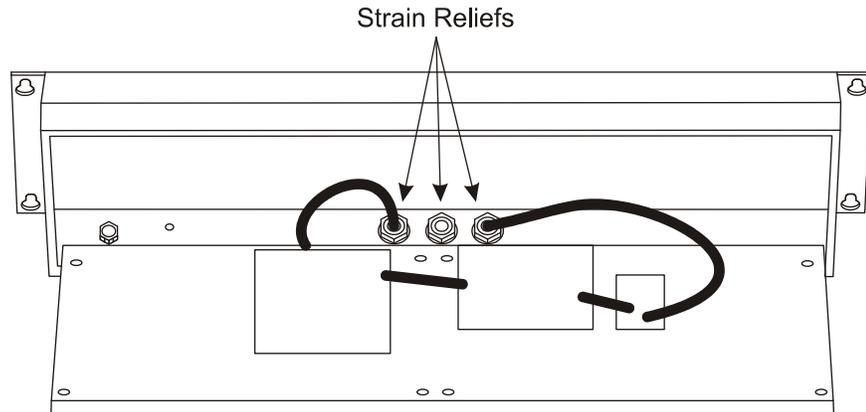

Figure 3.2 Strain reliefs
- Run communication cables up into the enclosure via strain reliefs as necessary. See Figure 3.2.